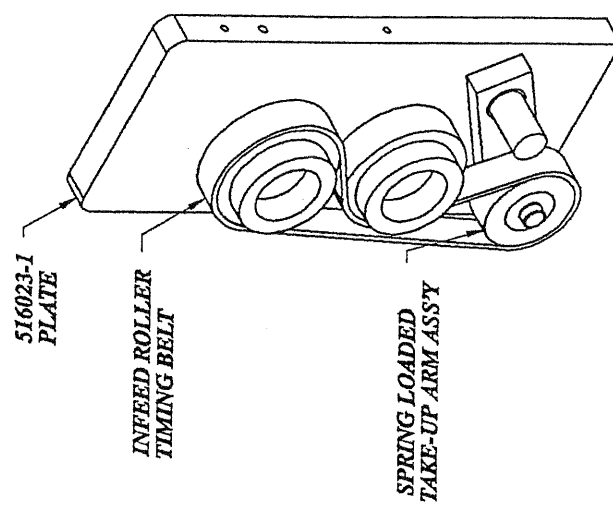

FIGURE 9.1
d. Remove left side plate 516023-1. See Figure 9.1
e. Slip timing belt over spring-loaded, takeup arm and replace with new belt. See Figure 9.1
f. Install left side plate 516023-1. See Figure 9.1